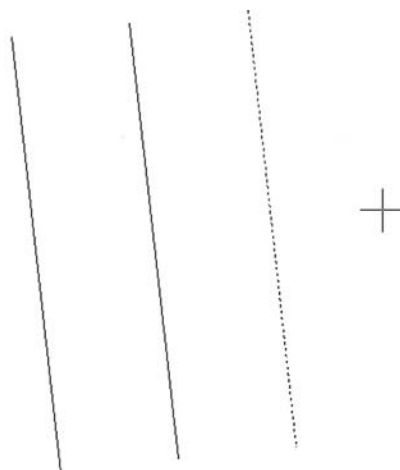

FIGURE 1.31
- Step 4.** Pick a *direction* for the line to go, which will be one of the two sides of the original line. You can keep doing this over and over by selecting the new line and then the direction (see Figure 1.31). If you want to change the offset distance, you must repeat Steps 1 through 3.